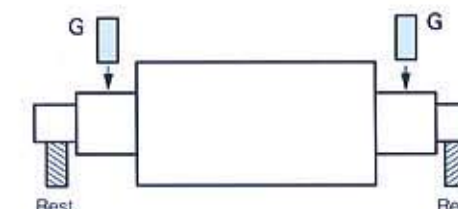

Fig. 3.31
- After grinding of the step (roll grinding support), grind the roll neck. After grinding, check the roundness, run-out, and cylindricity. (**Fig. 3.31**) Install the inner ring with its max. position (E or O) matched to the minimum run-out position of the roll neck.